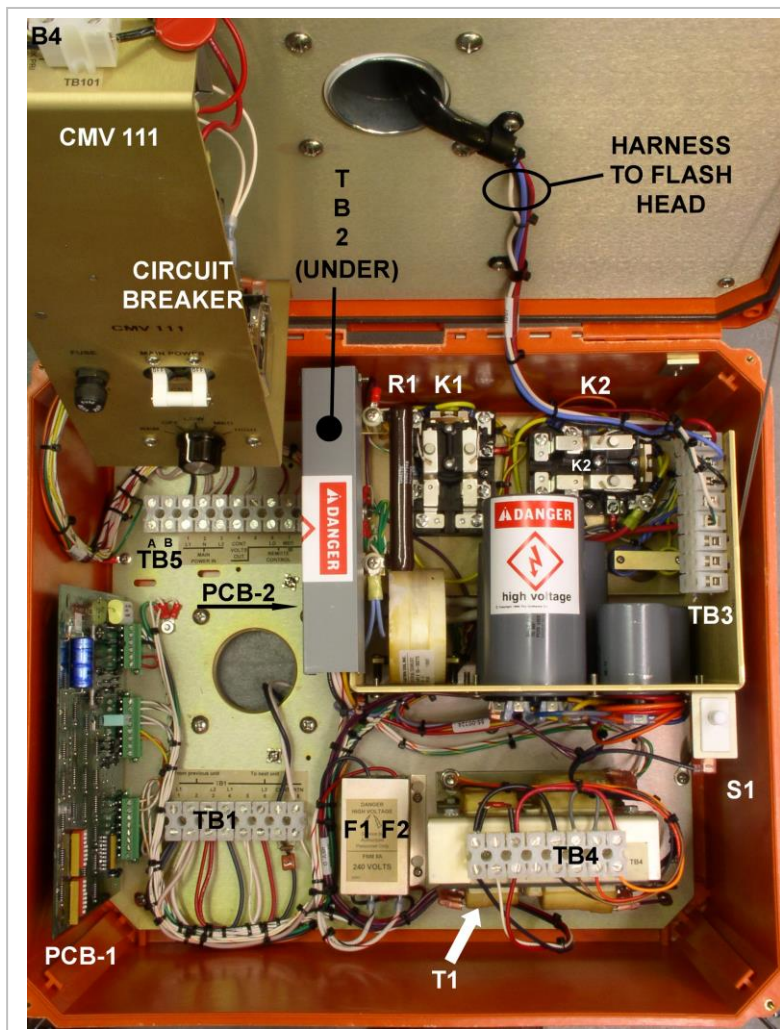

Figure 13
- Check screw tightness on TB1 and TB3 (8-position terminal blocks; (See Figure 13 for locations). Check every position that has a wire connection whether to external wiring or to internal circuits. You should also check TB5 in master units.
It is important to know where the major components are located, especially when attempting to follow troubleshooting procedures. Use Figures 13 and 14 for this purpose. A slave power supply does not have a CMV-111 Control Module; it is otherwise identical to a master unit shown in Figure 13.